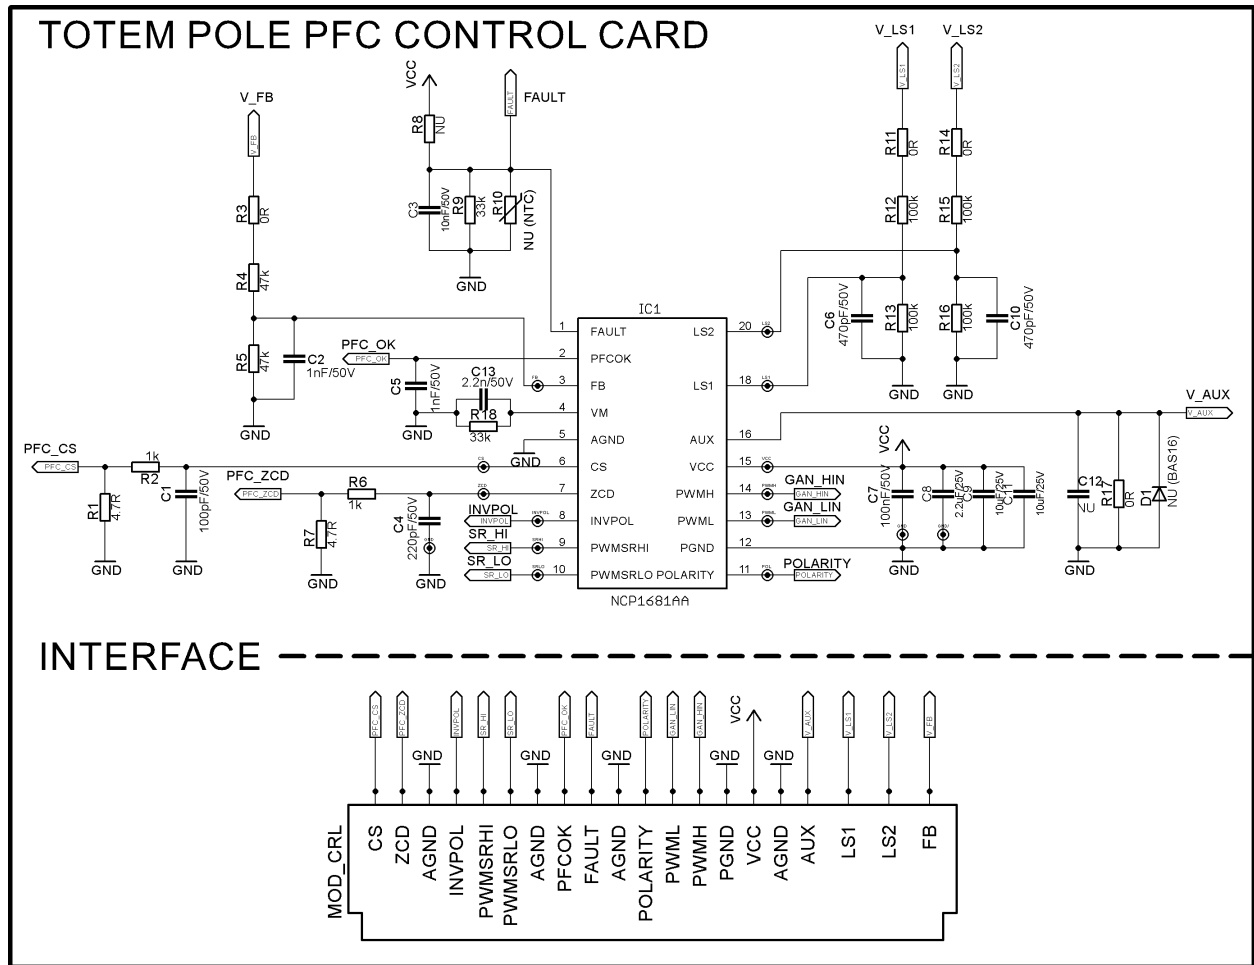
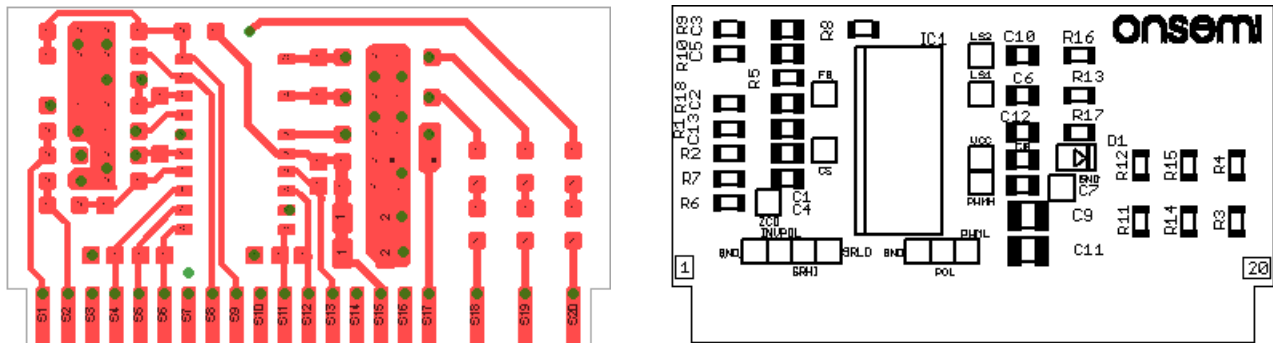

Figure 22. PFC CONTROL CARD Schematic
Figure 23. Top Layer PCB Layout and Assembly Plan of PFC CONTROL CARD
- PFC CONTROL CARD – MOD_CRL (Figure 22, Figure 23, Figure 24, Figure 25)
The PFC CONTROL CARD is portrayed in first few figures: schematic diagram in Figure 22, PCB layout with assembly plan in Figure 23, Figure 24 and photographs in Figure 25. The PFC CONTROL CARD is two-layer 1.5 mm width core PCB with 70 μm copper plating. The PCB is designed to be plugged into edge connector. Dimensions of the PCB are 31.8x17.8 mm.